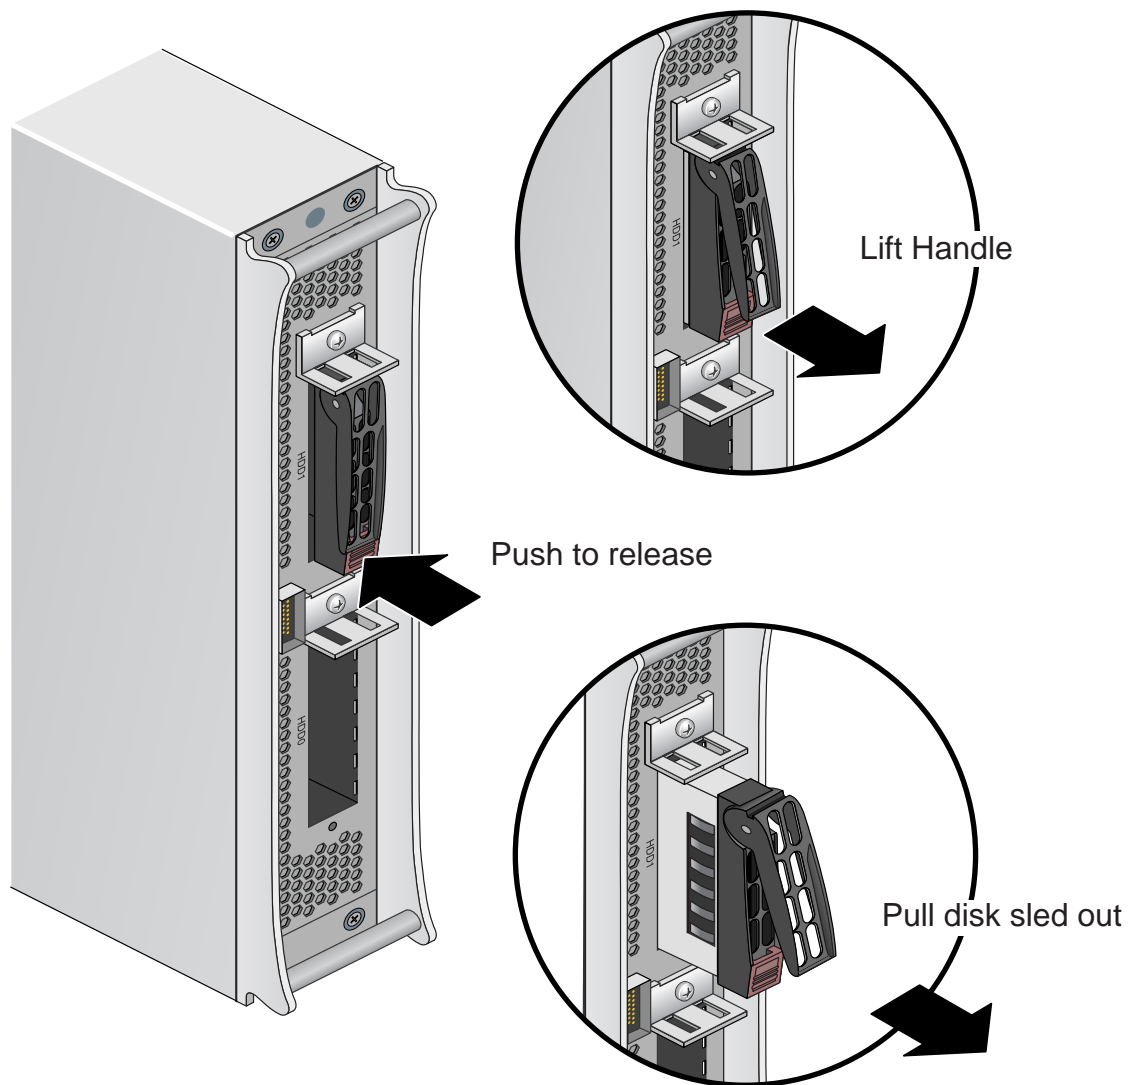

Figure 5-9 Removing/Replacing a Disk Drive
1. Press in and down on the red button until the handle is released, see Figure 5-9 on page 68.